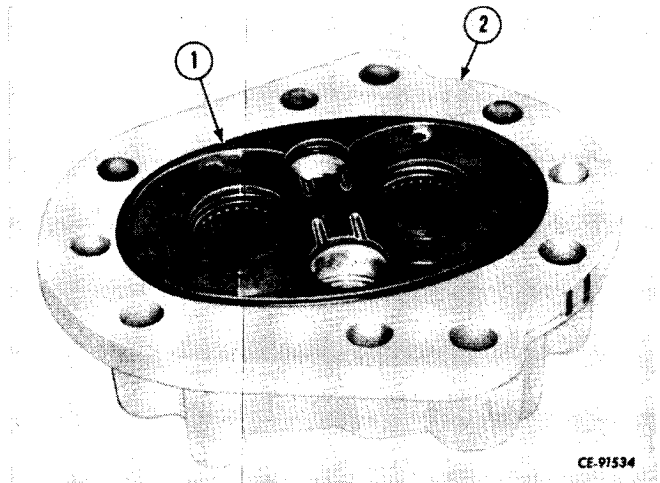

Figure 3-48
Remove the wear plate (1, Fig. 3-48) from the cover (2).
Install the wear plate (1, Fig. 3-48) in the cover (2).